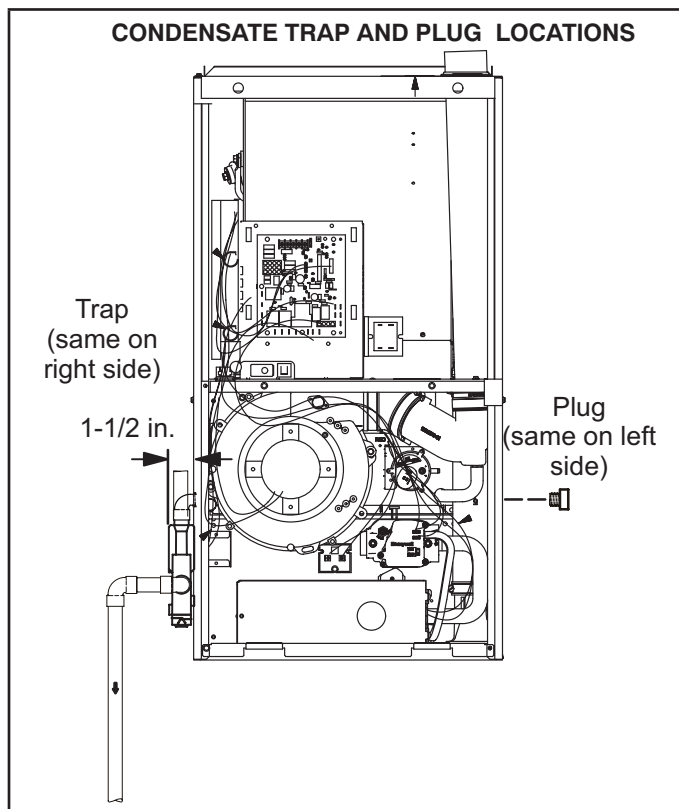
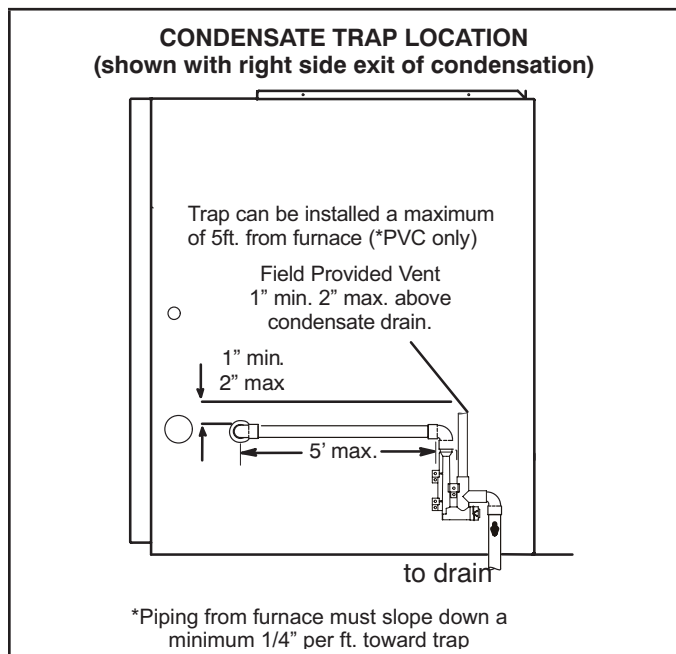

FIGURE 33
FIGURE 34
This unit is designed for either right- or left-side exit of condensate piping. Refer to FIGURE 33 and FIGURE 34 for condensate trap locations.
- 2 - Use a large flat head screw driver or a 1/2" drive socket extension and remove plug (FIGURE 33) from the cold end header box at the appropriate location on the side of the unit. Install provided 3/4 NPT street elbow fitting into cold end header box. Use Teflon tape or appropriate pipe dope